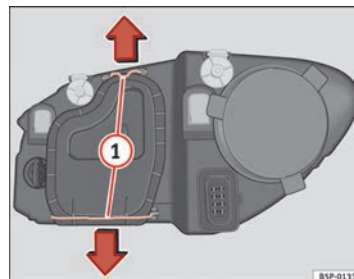

Fig. 187 Dipped beam headlights
- Move the loops ⇒ Fig. 187 ① in the direction of the arrow and remove the cover. ►